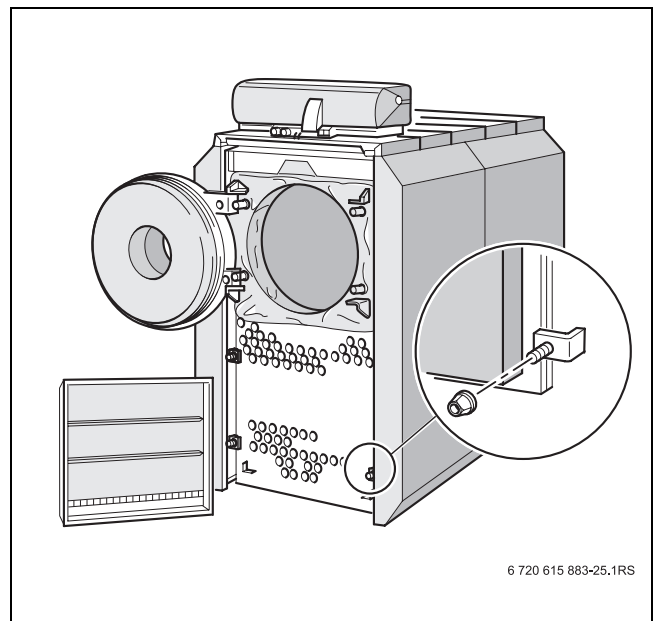

Fig. 30 Removing the return hood and opening the burner door
- ▶ Put the return bonnet in place and seal it tight with the clamping angle (→ Fig. 30, page 40). Pay attention to fitted position.